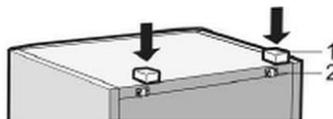

Fig. 2
8. Use two supports (1) and insert them into guides (2) in the top section of the rear wall (Fig. 2).